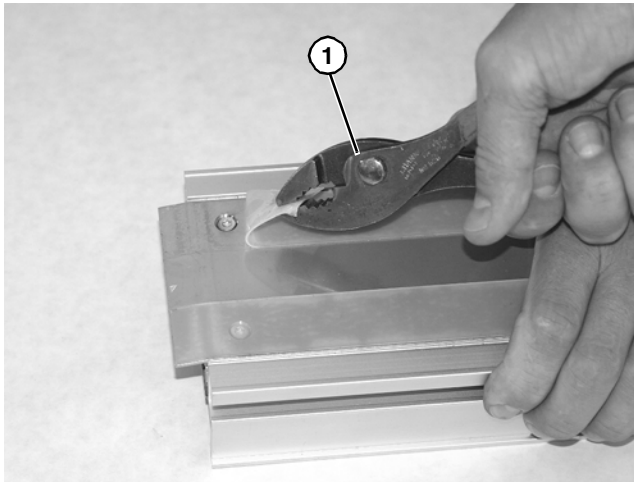

Figure 59
3. Remove old wear strip with a pliers (Figure 59, item 1).